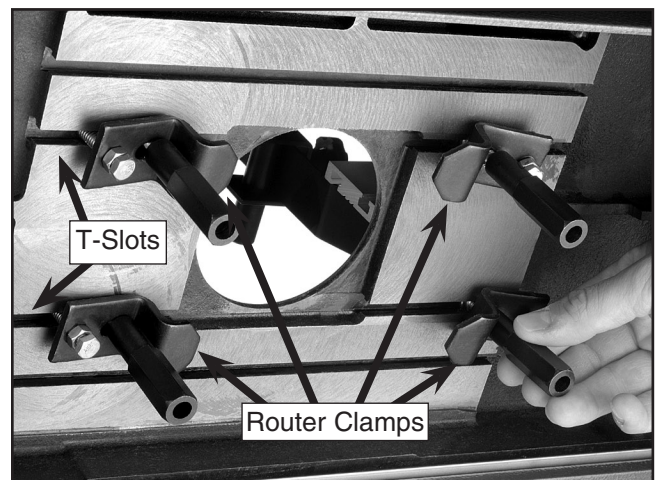

Figure 13. Installing the router clamps
2. Slide each of the four router clamps into the T-slots on the underside of the cast iron table (**Figure 13**).